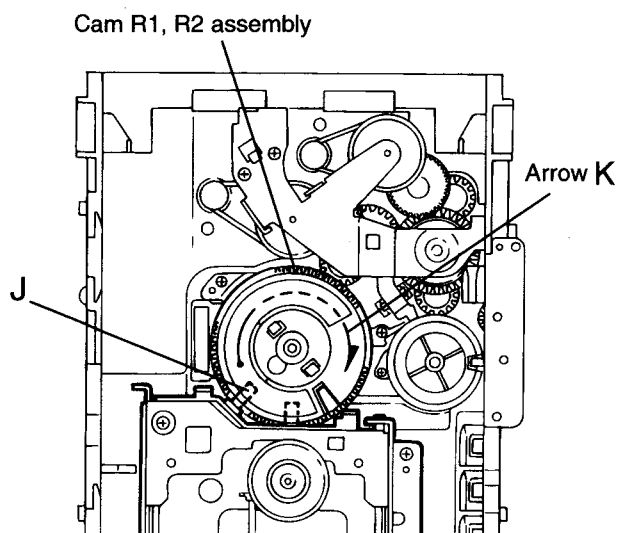

Fig.11
■ Removing the CD mechanism (See Fig.11 and 12)
1. For dismantling only the CD mechanism without removing the CD mechanism assembly, align the shaft "J" of the CD mechanism assembly to the position shown Fig.11 while turning the cam R1 and R2 assembly in the arrow direction "K".